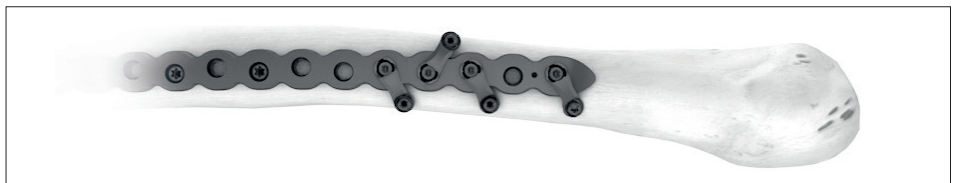

Fig. 29
**To limit the risk of weakening the bone avoid too many screws in a concentrated area (fig. 28). Bi-cortical purchase offers better stability and limits the risk of weakening the bone (fig. 29 and 30).**